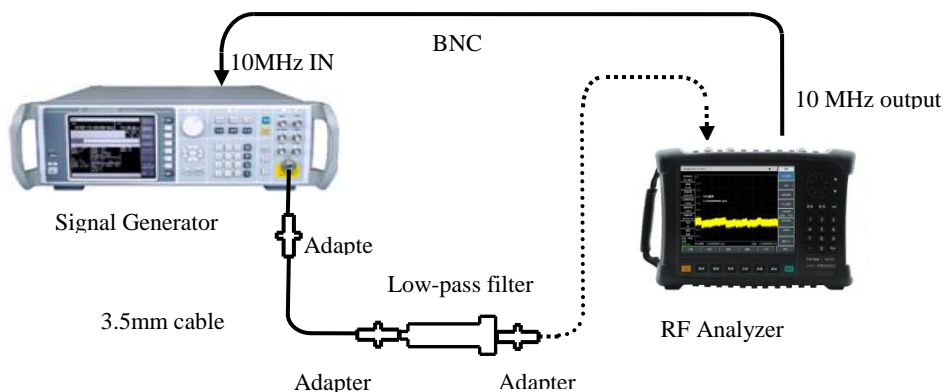

Figure 16-13 Settings of Second Harmonic Distortion Test
- a) Connect the test instrument as shown in Figure 16-13. The instrument provides a 10 MHz frequency reference for the composite signal generator and selects a 1 GHz low-pass filter.